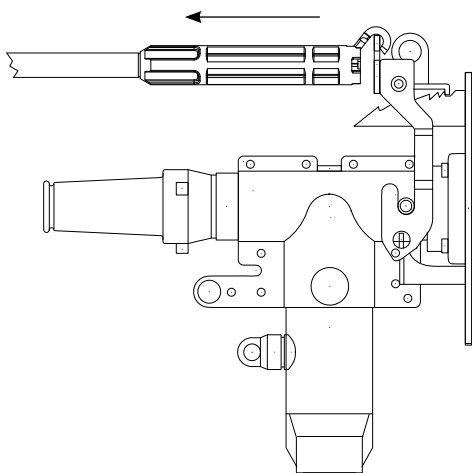

Figure 18b. Check latch engagement.
- Pull on push plate with clampstick to ensure latch plate is engaged. (Refer to Figure 18b.)